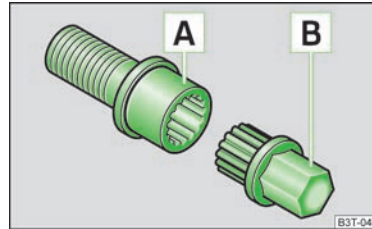

Fig. 179
- \gg Insert the adapter B with its toothed side fully into the inner tothing of the safety wheel bolt A until the stop so that only the outer hexagon is jutting out \gg Fig. 179.